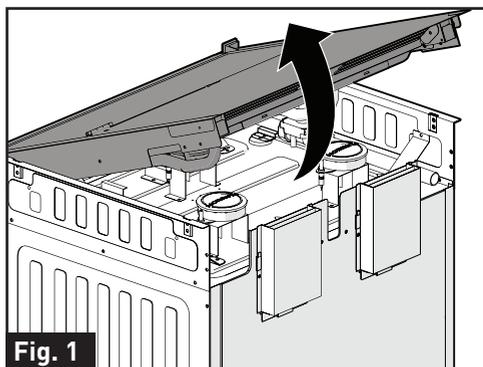
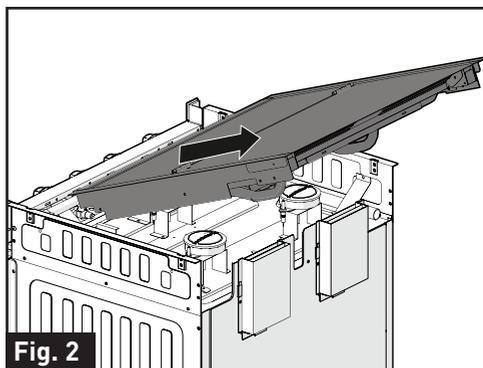

Fig. 1
Fig. 2
2. Hold the baffle of the top glass cover and pull towards up to release it from the oven. (Fig. 1) Push a little and lift up to remove the top glass cover to remove it from the oven. (Fig. 2)